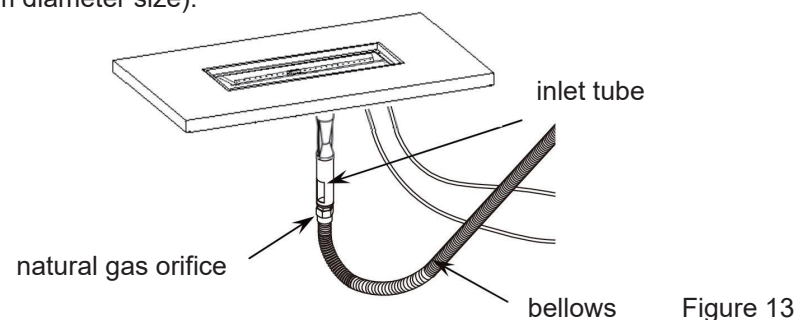

Figure 13
3. Replace the propane orifice with the natural gas orifice, screw the natural gas orifice with the bellows tightly, then connect and tighten the natural gas orifice with inlet tube (see Figure 13). Natural gas orifice(4.18 mm diameter size).